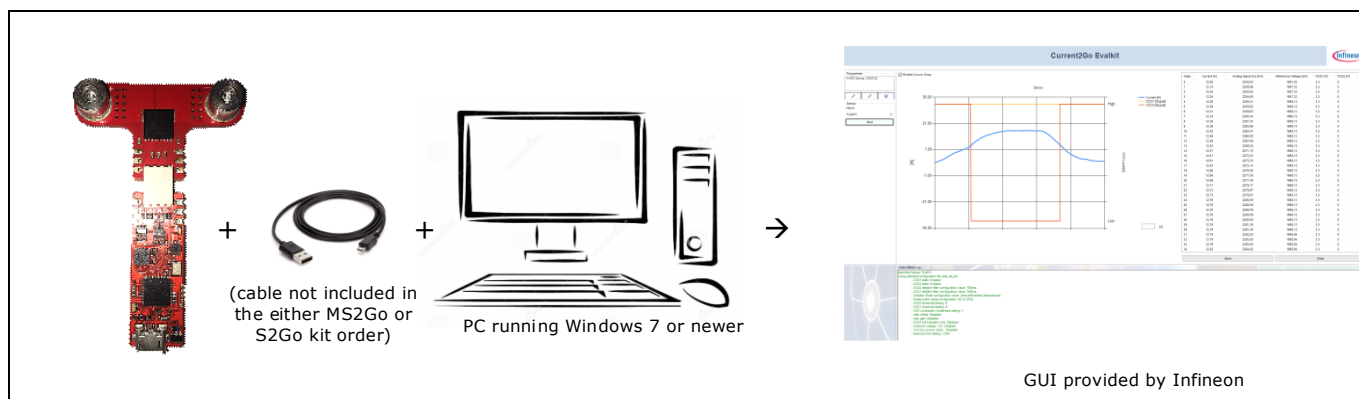

Figure 4 MS2Go kit Use Case with MCU Board
- MS2Go kit use case with MCU Board (See Figure 4)
The MS2Go kit can be used as independent evaluation kit by connecting sensor board with MCU board together as shown in the Figure 4. The user has to connect the XMC2GO board with the PC/Laptop using the USB cable, which must have micro USB on one side and standard USB port on the other side of the cable. The provided GUI is plug & play.